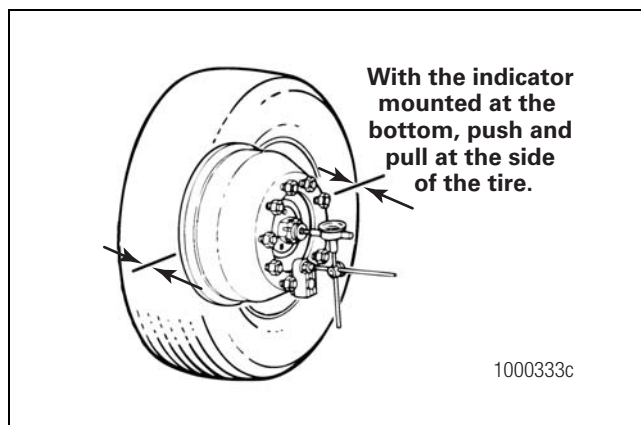

Figure 7.1
5. Attach a dial indicator with the magnetic base at the bottom of the hub or the brake drum. Adjust the dial indicator so that the pointer is against the center of the knuckle. Set the dial indicator on ZERO. Figure 7.1.
- **If the end play is not 0.001-0.005-inch (0.025-0.127 mm):** Adjust the wheel bearings. Figure 7.1.